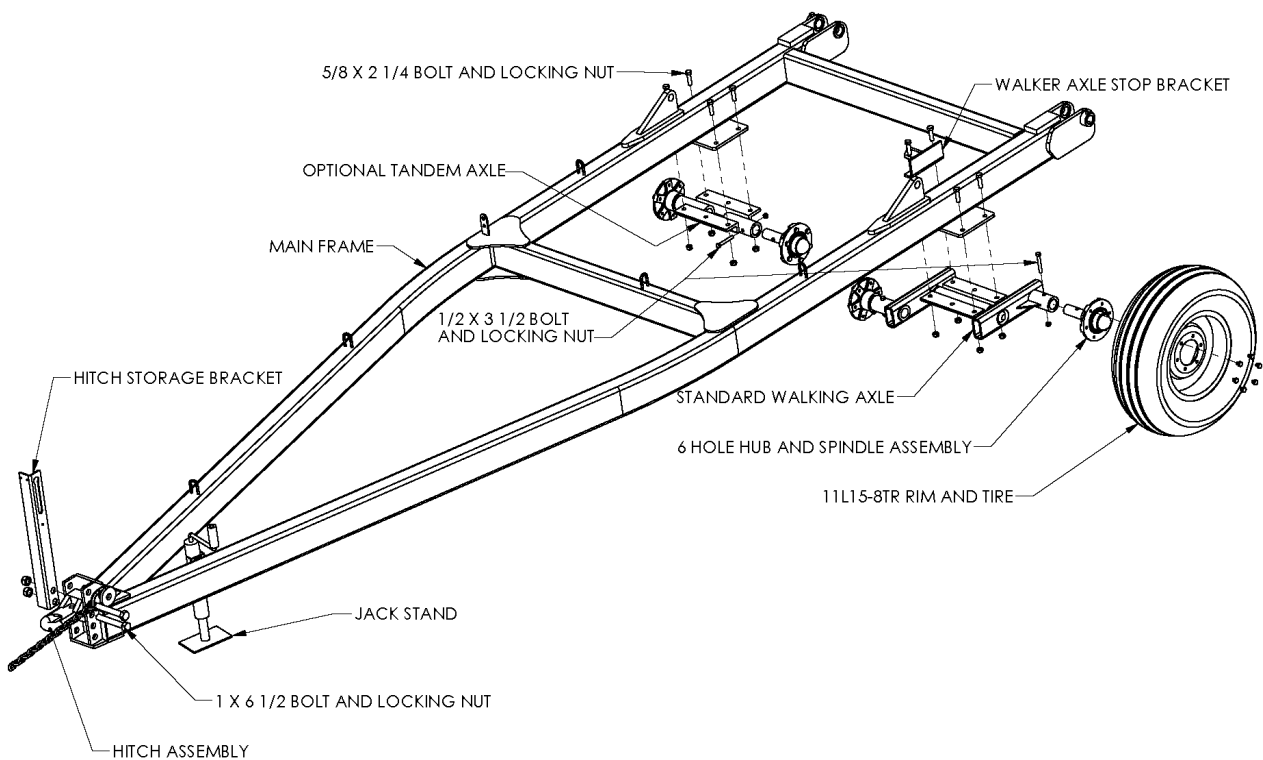

Figure 1
1. Bolt the Axle Brackets to the main frame. You will have either the Standard Walking Axle or the optional Tandem Axle assemblies. Both are shown in Figure 1. Use 5/8" x 2 1/4" bolts, and locking nuts. Note the orientation of the walking axle when installing this option and be sure to include the Walking Axle Stop Tube Assemblies as shown.